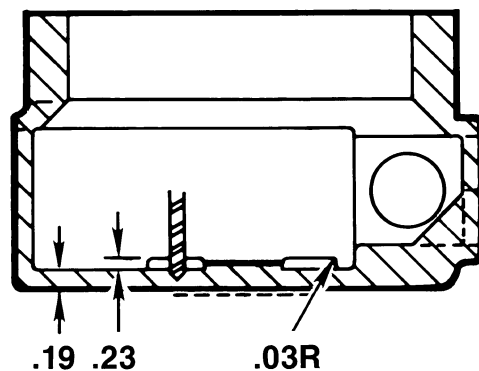

Figure 2. Mounting Pad and Back Wall Dimensions
2. Holes can be drilled and tapped in the mounting pads. See Figure 2.